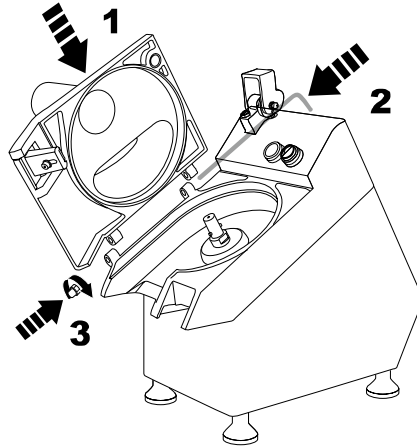

Fig.3
4.6.4 Clean the device, in particular the disc assembly. Only with a dampened cloth or sponge in warm water. Thoroughly remove all remaining foodstuff. Open the cover and loosen pin 1 as shown in fig.3. Remove the cover and wash with warm running water. Clean the surfaces with water with soap, alcohol, non-abrasive detergents or with water without chlorine- or soda-based substances (chlorinated water, hydrochloric acid). Never use abrasives, steel wool or similar products as they may damage the surface, coating or body of the device. For cleaning, use non-toxic hygiene products.